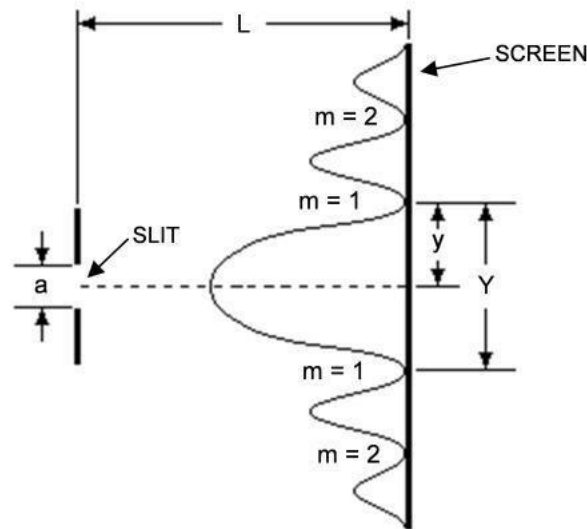

FIGURE 3 - Single slit diffraction
There is also an interference effect when there is only one slit. This is called *diffraction*. In this situation the light interferes with itself to produce bright and dark fringes on the screen. The main difference in the pattern is that the central bright spot for one slit is twice as wide as the central bright spot for two slits. See **Figure 3**. There are other differences but they will be left for you to discover during the lab. Also the width of the slit is  $a$ .
- F.) Measure the distance,  $Y$ , from one dark fringe to the other for the same order number. See **Figure 3**. Place these values in the table.
Can you observe second and third order diffraction for CD? (this is when  $m=2$  or  $3$  in figure 3) How about for the DVD? **Try** to explain why or why not.